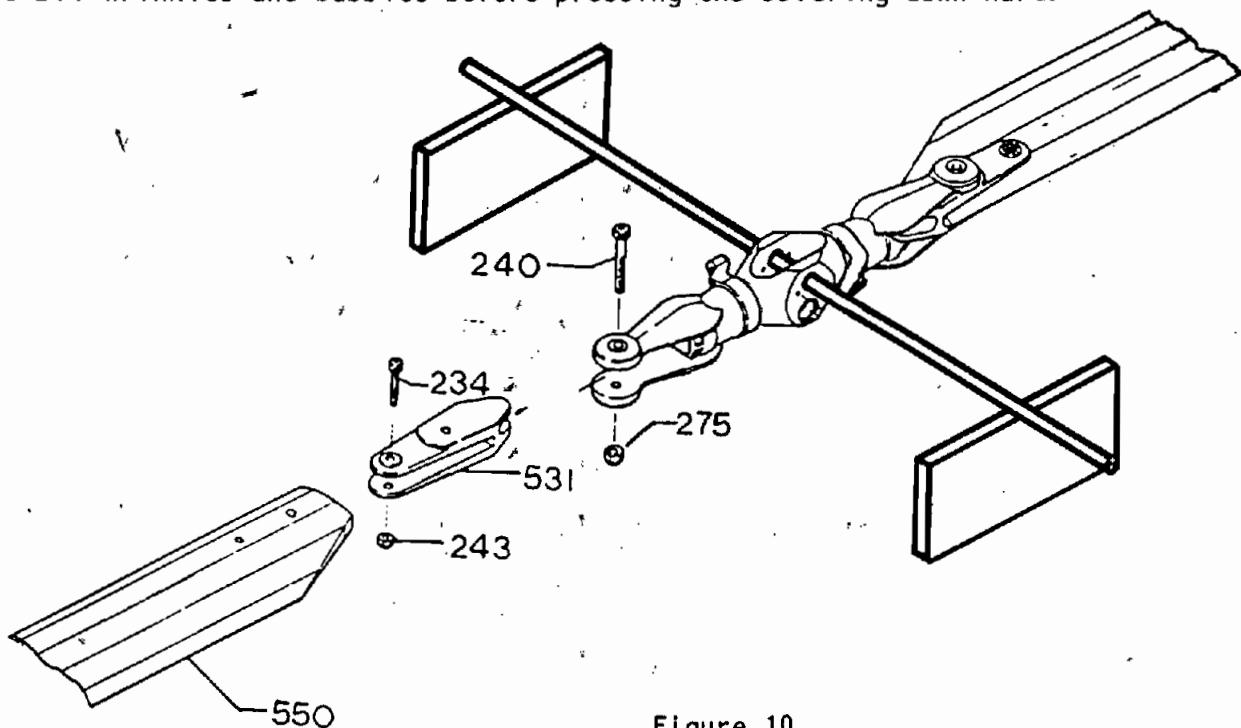

Figure 10
**STEP 10 COVERING AND BALANCING OF MAIN ROTOR BLADES - see Figure 10**
- G. To balance head, first make sure blades are parallel to the head. Place a suitable round axle through either large set of holes in the head and suspend in a "Hi-Point" balancer or other suitable balancer. A round tube or pencil and two straight edges of metal or ply will also do the job. (See Figure 10.)